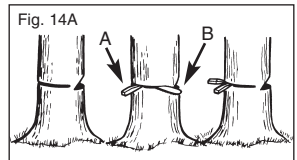

Fig. 14A
1. Use wooden or plastic wedges (A) to prevent binding the bar or chain (B) in the cut. Wedges also control felling (Fig. 14A).